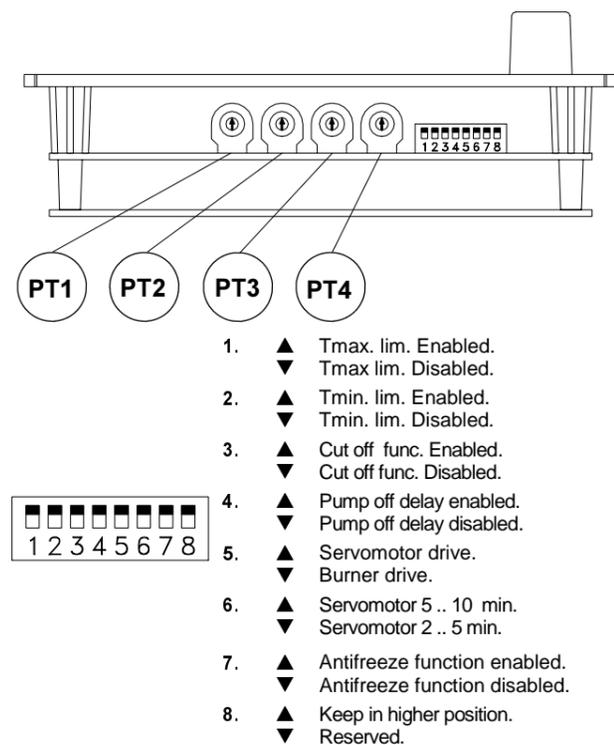

Fig. 6: Dip switches and trimmers.
- Enable the delivery water temperature limitation, setting dip-switch n°1 in 'enabled' position ▲ (see Fig. 6).
- Adjust the maximum delivery water temperature at about 45°C, through trimmer PT1 (see Fig. 6)..
- The device is factory set with the antifreeze function enabled. If this function is enabled, when the device is turned off (selector in "OFF" position) and the external temperature falls below 3°C the circulation pump is automatically started so that water cannot freeze inside the pipes. If needed this function can be disabled through switch 7, as explained in Fig. 6.